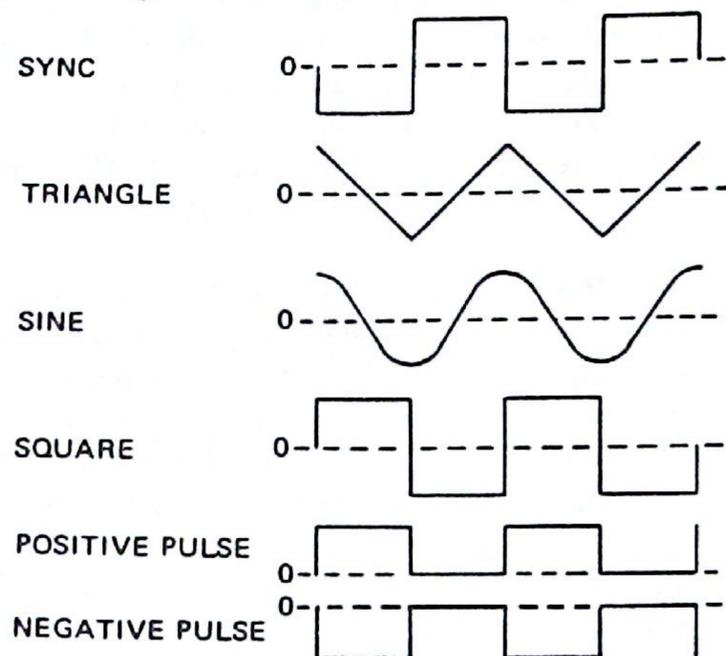

Figure 2-2.
8. **WAVEFORM Selector** – This selects the waveform that appears at the 50Ω output. The waveforms are sine \sim , triangle ∇ , square \square , positive going pulse $\text{—} \uparrow \text{—}$, negative going pulse $\text{—} \downarrow \text{—}$, and DC voltage. See Figure 2-2 for phase and polarity relationships.
11. **SYNC OUT** – This is a square wave (or rectangular if SYMMETRY control is in use) with the same frequency and opposite polarity of the selectable square wave at the 50Ω output. Amplitude into an open circuit is greater than 4 V p-p (2 V p-p into 50Ω). Rise and fall times are less than 50 ns. See Figure 2-2 for phase and polarity relationships.